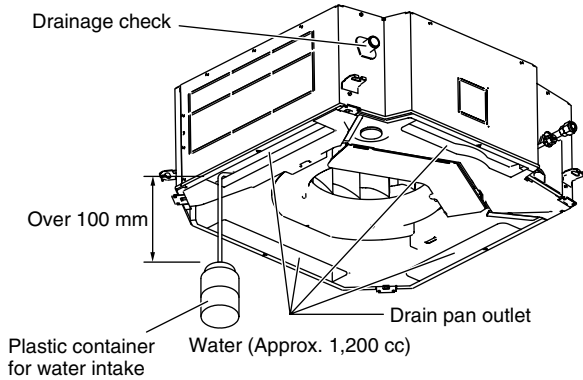

Fig. 3-12
- (1) Connect power to the power terminal board (R, S terminals) inside the electrical component box.
- (2) Slowly pour about 1,200 cc of water into the drain pan to check drainage. (Fig. 3-12)